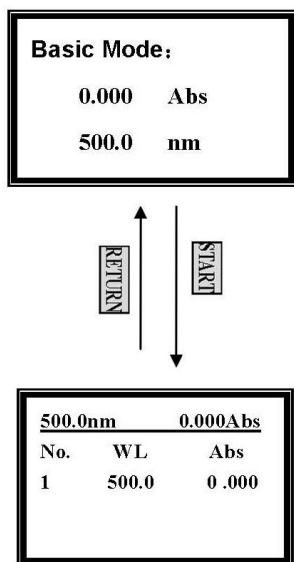
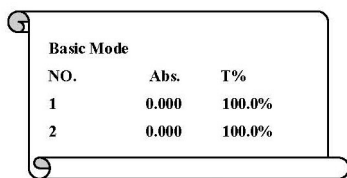

Figure 5
Fig 6
- Press **[ENTER]** to change the wavelength, and then blank. After blanking, the screen displays as the upper one (figure 5).
- Press **[START/STOP]** in the upper figure on the left to go into testing interface (the lower one of figure 5).
- Press **[START/STOP]** again in the lower one of Fig. 5. The testing result displays on the screen. Repeat this step and the results will be displayed on the screen one by one.
(For example: Print the report in "Basic mode", the lower one of Fig. 5).
- Press **[PRINT]** in the lower display of Fig.5 to print the report (Fig. 6).